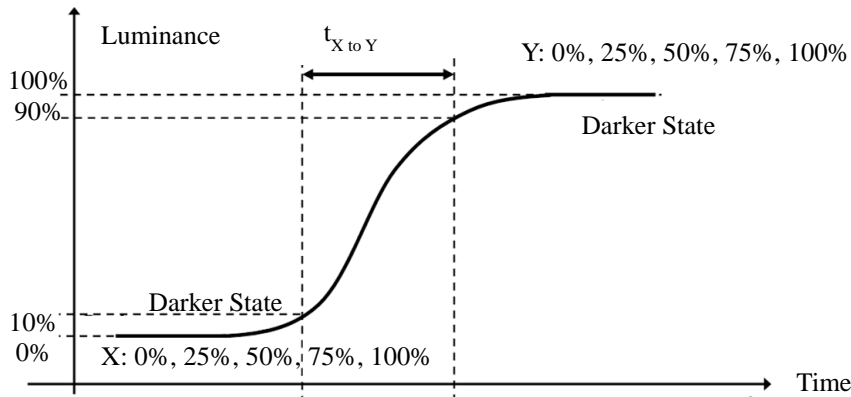

Fig. 6.4 The definition of $t_{X \text{ to } Y}$
- (3) Response time T_L is defined as the average transition time in the response time matrix. The table below is the response time matrix in which each element $t_{X \text{ to } Y}$ is the transition time from luminance ratio X to Y . X and Y are two different luminance ratios among 0%, 25%, 50%, 75%, and 100% luminance. The transition time $t_{X \text{ to } Y}$ is defined as the time taken from 10% to 90% of the luminance difference between X and Y ($X < Y$) as illustrated in Fig.6.4. When $X > Y$, the definition of $t_{X \text{ to } Y}$ is the time taken from 90% to 10% of the luminance difference between X and Y . The response time is optimized on refresh rate $F_R = 60\text{Hz}$.